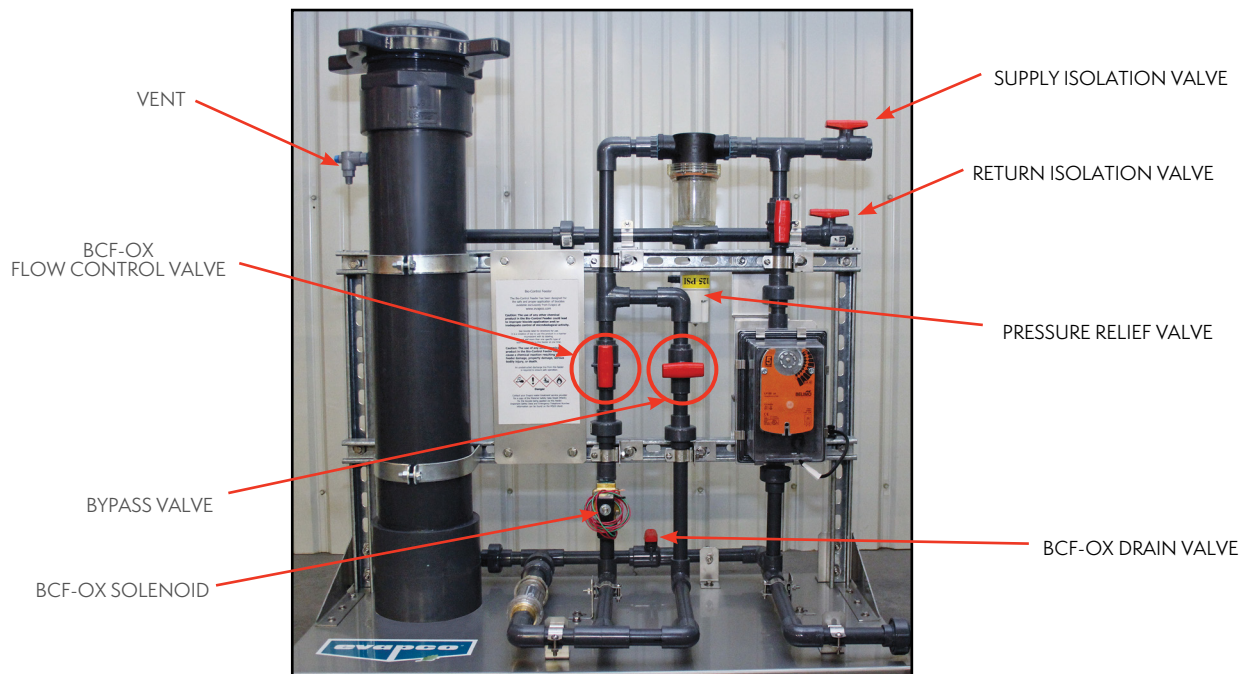

Figure 26 – Loading the **BCF-OX**
- 8.5.3 Close the Supply and Return Isolation Valves on the **BCF-OX** module. See Figure 26.